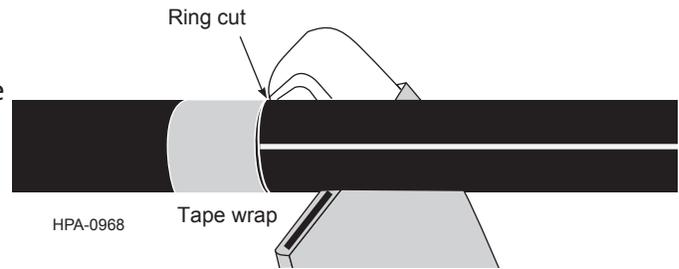

Figure 5
Step 6: Taking care not to cut through the GRP rods, use the hook blade knife to make a shallow ring cut through the black outer sheath at the tape mark (Figure 5).